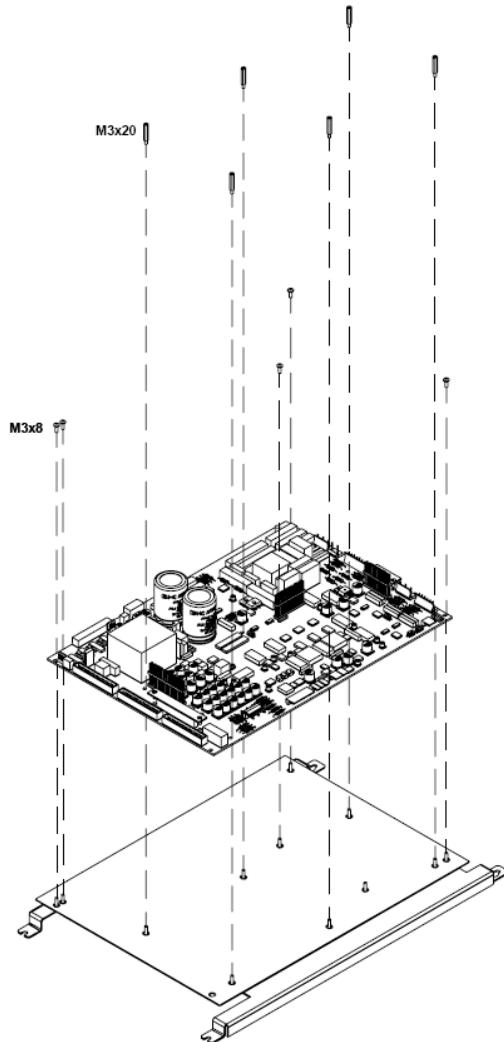
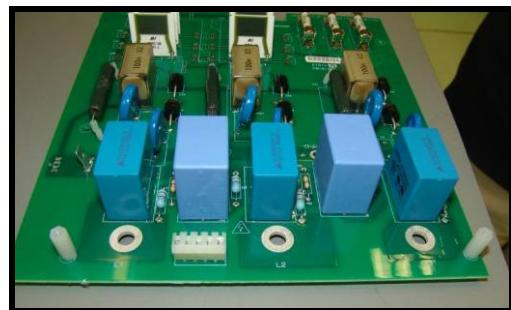
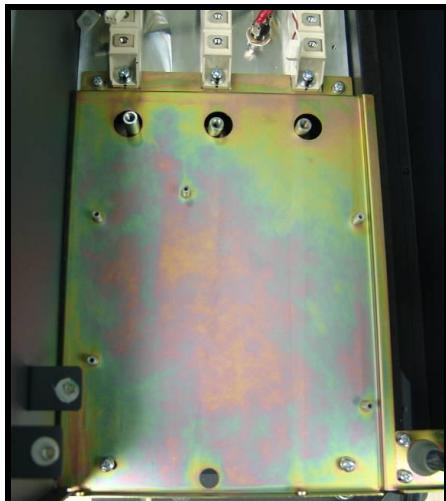

Figure 7.4.7. Disassembly of the power board
Figure 7.4.10. Disassembly of the power connections board
Figure 7.4.16
- 5) Put the board on the electronic tray, matching the bolts of the tray with the holes of the board (see figure 7.4.7).
Before proceeding, you should remove the embellishers (see section 7.4.1), the tray for the boards (see figure 7.4.7), the pluggable PCB of the trigger thyristors (see section 7.4.7) and the bars for the connections to the thyristors (see figure 7.4.10 a).
- 3) Remove the 5 Phillips screws **M3x6 DIN-7895H**. See figure 7.4.10.
- 4) Put the board in the correct position as the figure 7.4.10 shows, matching the holes with the choke.
Figure 7.4.10 a
Before proceeding, you should remove the embellishers (see section 7.4.1), the tray for the boards (see figure 7.4.7), the pluggable PCB of trigger thyristors (see section 7.4.7), and the power connections board (see figure 7.4.10).
Before removing the upper Gate Drive board, you should remove the embellishers (see section 7.4.1) and the tray for the boards (see figure 7.4.7).
Before removing the IGBT's you should remove the embellishers (see section 7.4.1), the tray for the boards (see figure 7.4.7) and the upper gate drive board (see section 7.4.10).
Before removing the transformers, you should remove the embellishers (see section 7.4.1) and the tray boards (figure 7.4.7).
In order to remove the AC choke, first, you should remove the embellishers (see section 7.4.1), the tray for the boards (see figure 7.4.7), the power connections board (see section 7.4.8), the connection bars for the thyristors (see figure 7.4.10 a), the bus bars (see figure 7.4.17 a), the DC bus (see section 7.4.9), and the tray where the connections board is supported (see figure 7.4.16).
It is necessary to remove the embellishers (see section 7.4.1), the tray for the boards (see figure 7.4.7), the power connections board (see section 7.4.8), the connection bars for the thyristors (see figure 7.4.10 a), the bus bars (see figure 7.4.17 a), the DC Bus (see section 7.4.9), the control cable bars (see figure 7.4.21), the bar for connectios (see figure 7.4.19) and the medium bar (see figure 7.4.20).